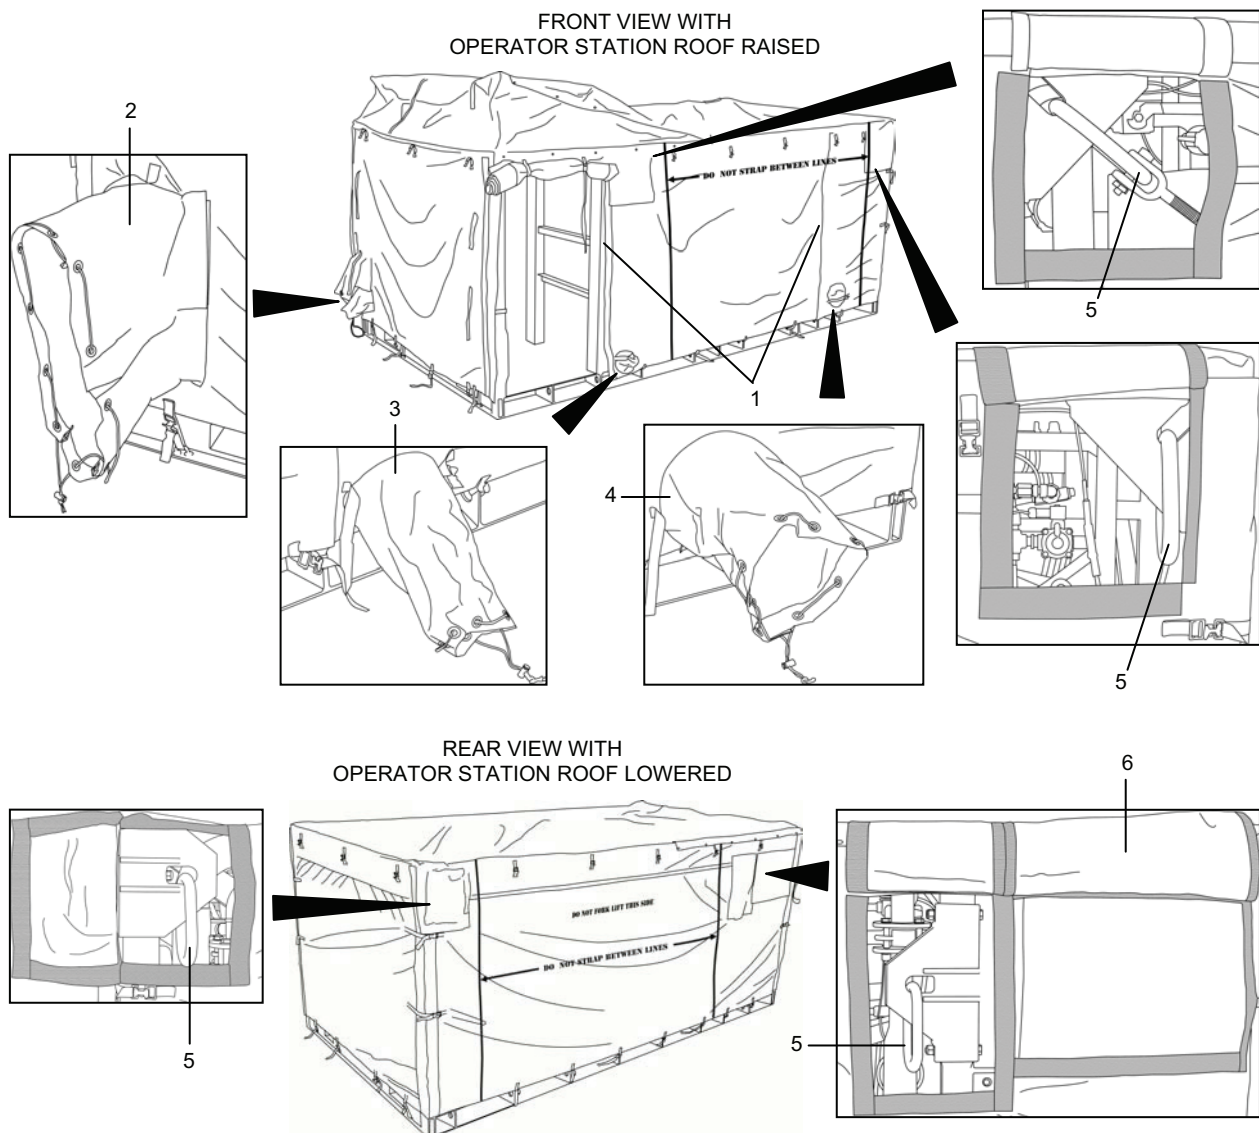

Figure 4. MC-TWPS General Purpose Cover.
The MC-TWPS General Purpose Cover is a single piece, water-proof, fabric covering that can be used during deployment to shield the equipment from precipitation and blowing dust and sand (see Figure 4). Straps inside and outside the cover are used to secure the cover to the TWPS frame. Zippered and hook and loop seams at the four corners and in two locations at the front (1) make it possible to separate and roll up and secure individual wall panels for access or ventilation. By releasing snaps and straps around the top of the cover over the operator station, the top can be expanded at that end so that a roof over the operator station can be raised without removing the cover. Sleeves with a hook and loop seam and cinch cord are incorporated to provide access for connecting power cables (2) and inlet (3) and discharge (4) hoses to the TWPS. Hook and loop panels are incorporated to provide access to four rail transport tie-down rings (5). A fifth panel (6) provides access to lift and tie-down instruction plates.